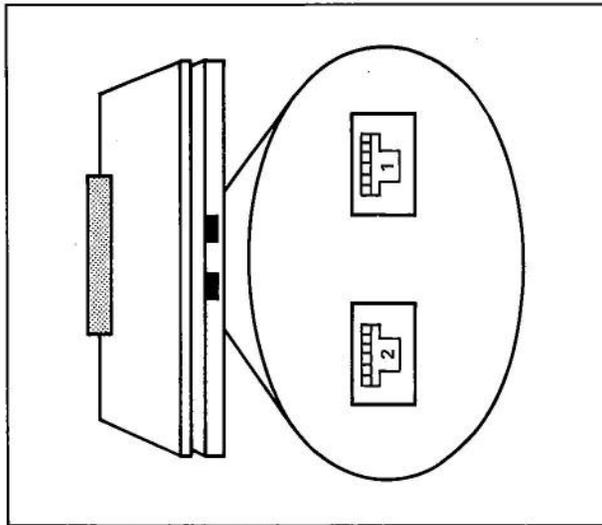

Figure 7 – Thumbwheel Switch Location
Step 7 – Two thumbwheel switches are located near the rear edge of the Module. (See Figure 7.) Both of these must be set to a specific digit in relation to the Reference Numbers assigned to the Module's 2 channels. Read Application Note 11 and refer to Table B. Also use the list described earlier in this publication at "Switch Settings."